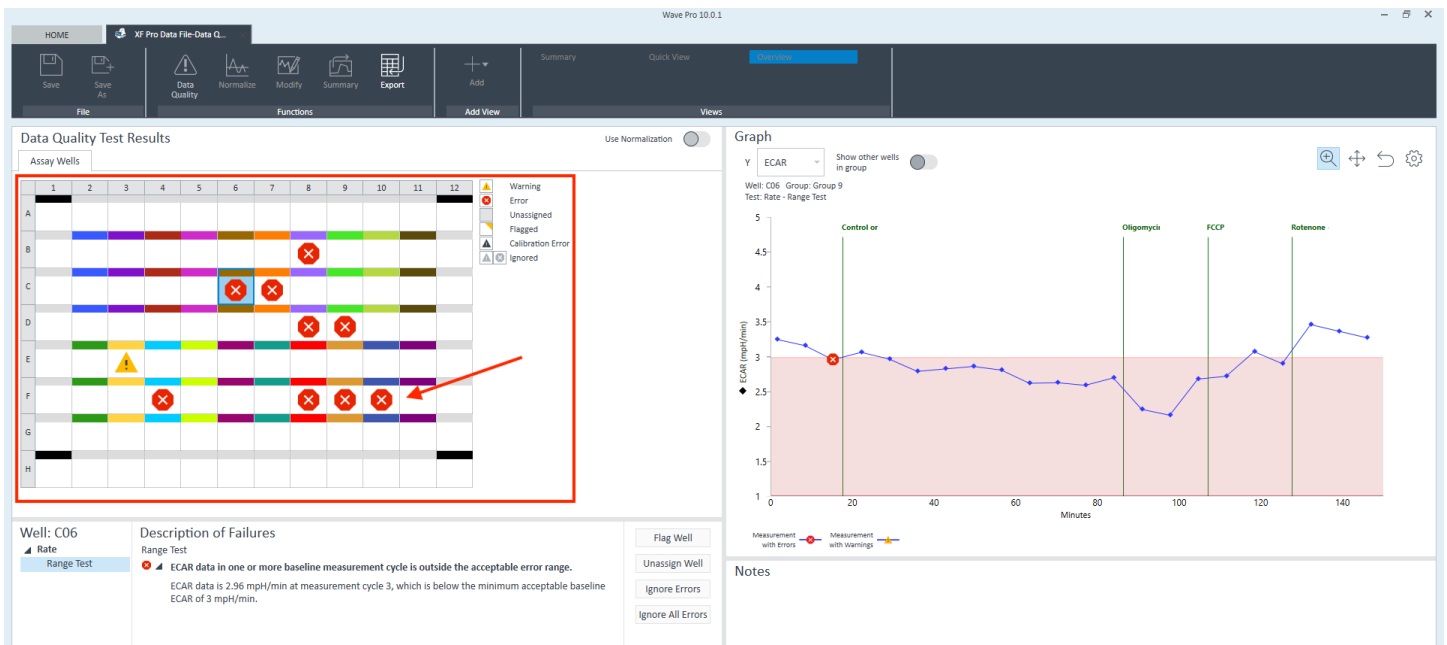

Figure 5. Warning and error icons appear on the plate map display.
- When the view appears, if your result file contains warnings or errors, you will see warning icons on the plate map wells containing possible issues for your review (Figure 5).